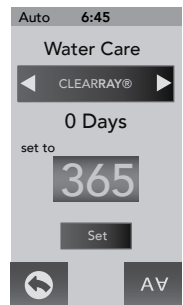

Figure 12.7c
1. From the “Water Care” Menu you can to set the CLEARRAY UV bulb timer, Figure 12.7c.
A programmable “Water Refresh” reminder can be set to remind you when to drain and refill the spa. Tap  (Figure 12.7c) until you reach the “Water Refresh” tab to enter the Programming Menu.